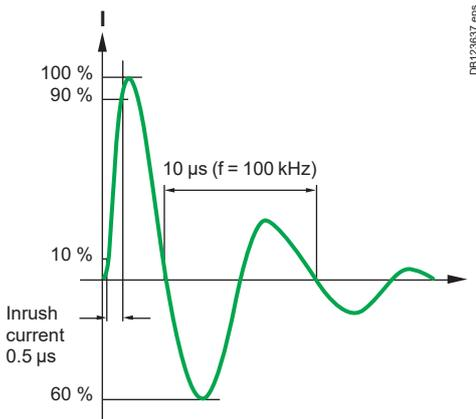

Fig. 3: normalized current waveform 0.5 μ s/100 kHz
- switching on capacitors creates a transient inrush current similar to that shown in waveform (Fig. 3)